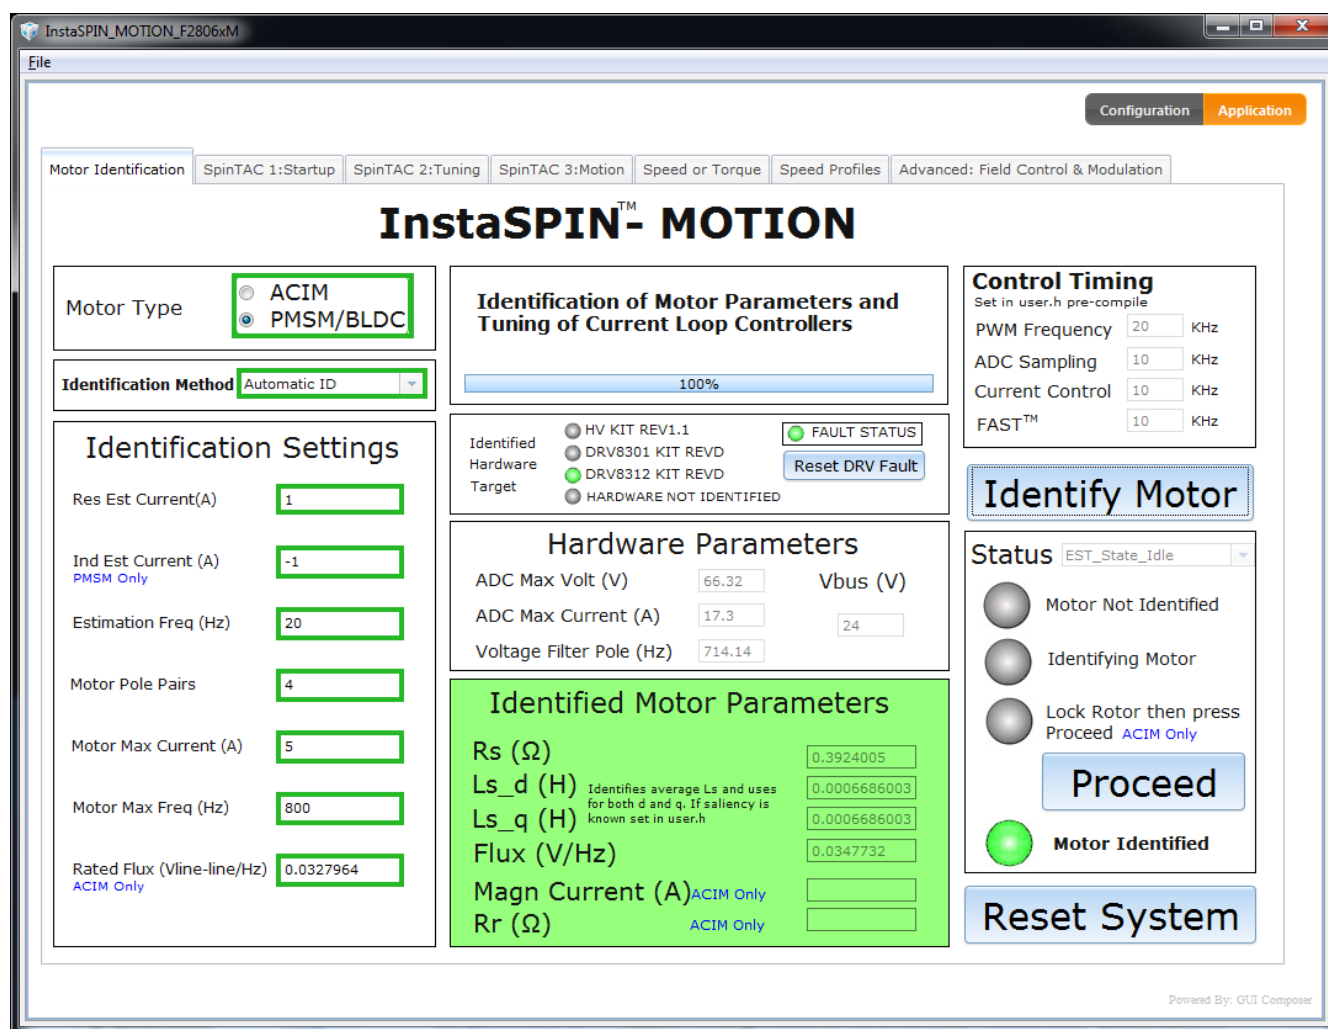

Figure 2-1. InstaSPIN-MOTION™ GUI Using Motor Identification Tab
1. Identify the motor parameters (Figure 2-1).